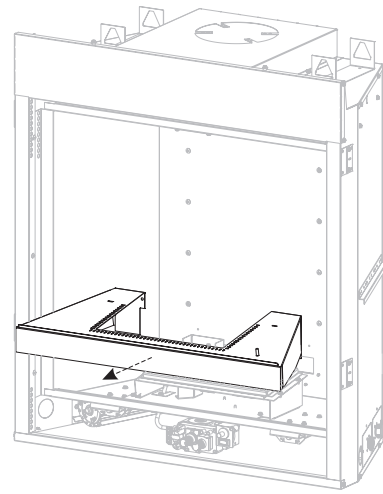

Figure 10
7. Remove burner cover by lifting off. See Figure 10.
20. Replace burner cover removed in step 7. **See Figure 10.**